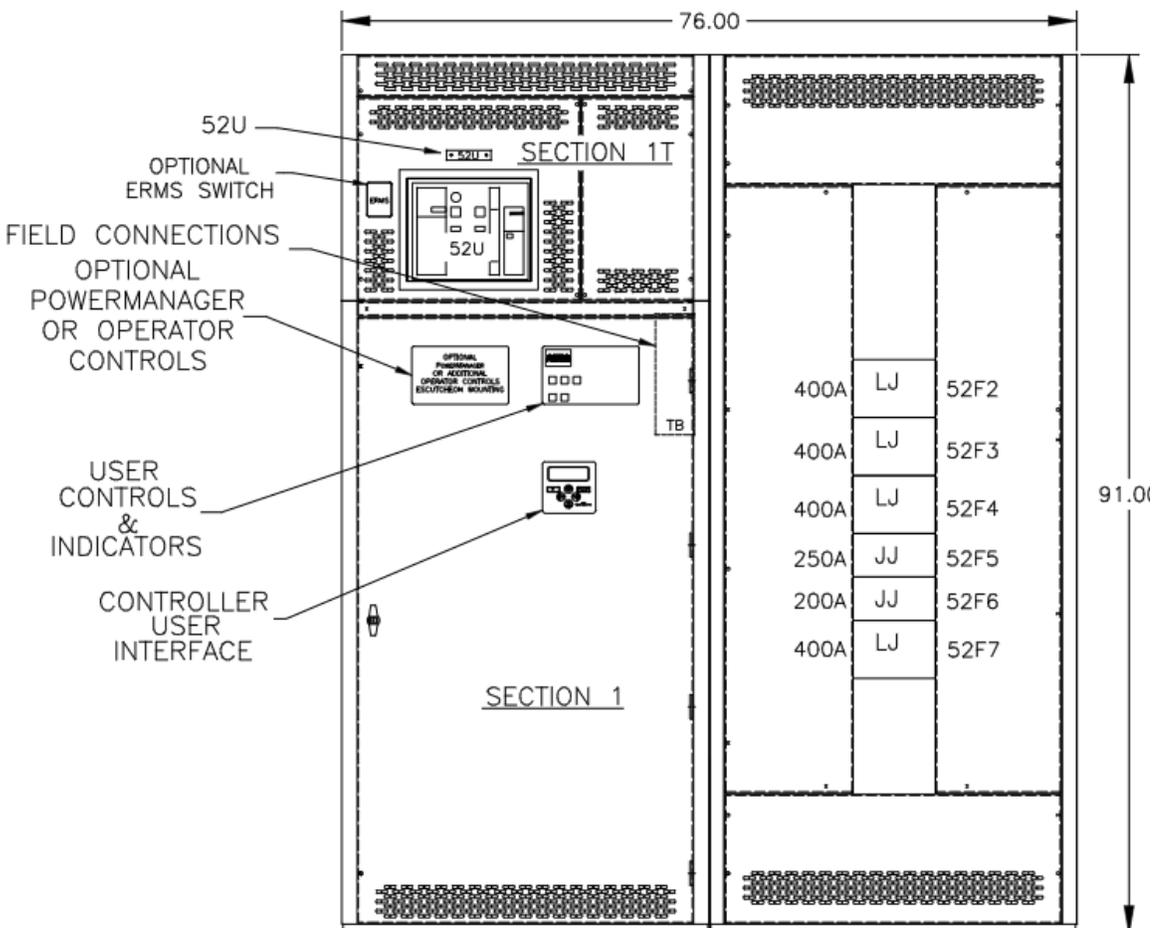
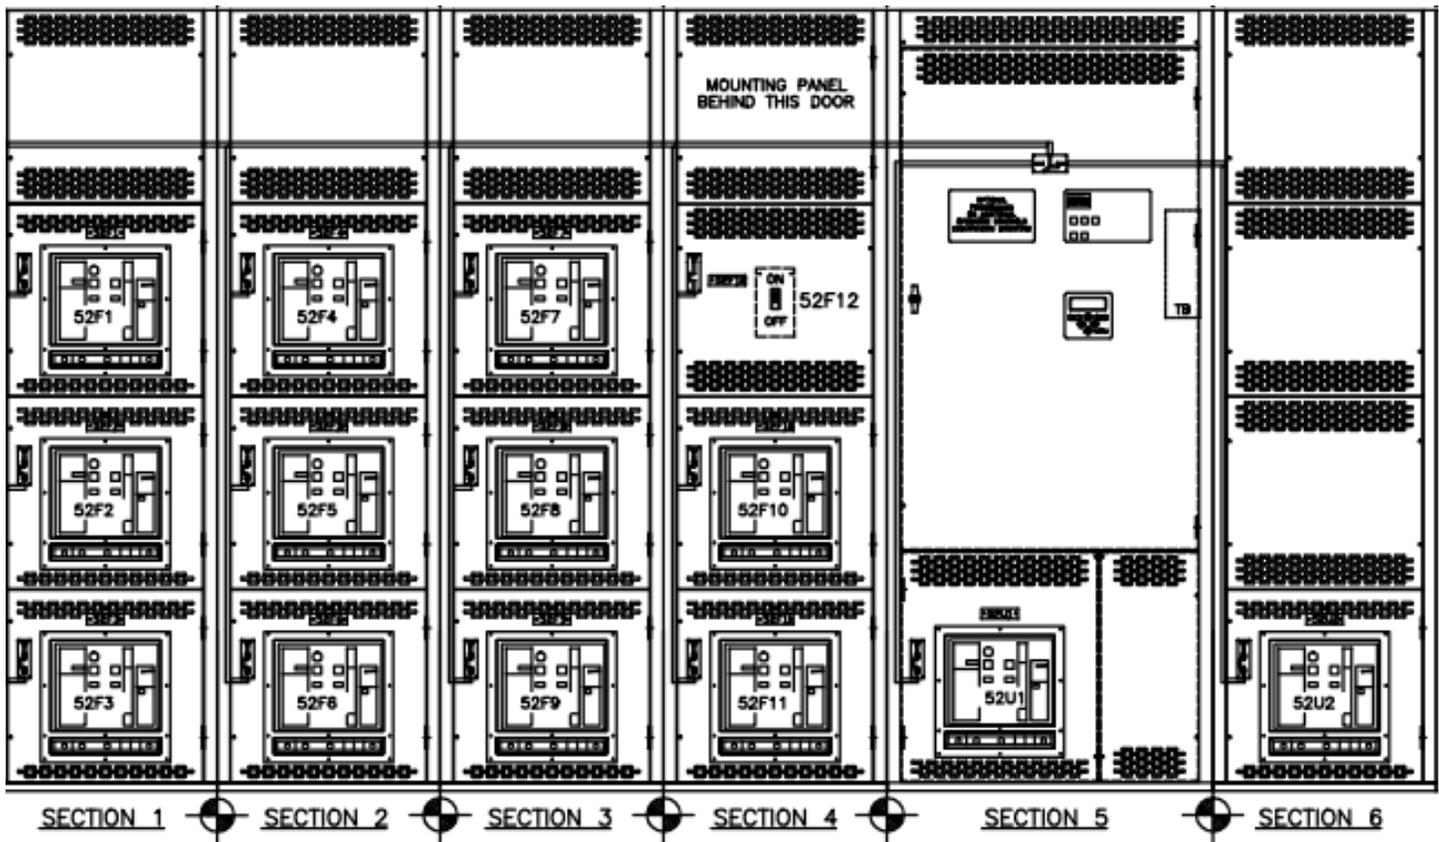

Figure 3: 3,000 Amp ASCO SERIES 7000 ATS with a single-row I-Line distribution panel.
Figure 4: 3,000 Amp ASCO SERIES 7000 ATS with a single-row I-Line distribution panel.
Common distribution breaker applications include (1) the addition of I-Line panels to house molded case circuit breakers; (2) the use of insulated case circuit breakers, with or without draw-out capability; or (3) manually operated or electrically operated circuit breakers. Figure 3 shows a 3,000 Amp ASCO SERIES 7000 ATS with a single-row I-Line panel for load distribution. Figure 4 shows a 3,000 Amp ASCO SERIES 7000 ATS with Schneider Electric NW distribution breakers as well as circuit breakers on the Normal and Emergency sources. The brand and type of circuit breaker(s) can usually be provided to match a customer's specification.